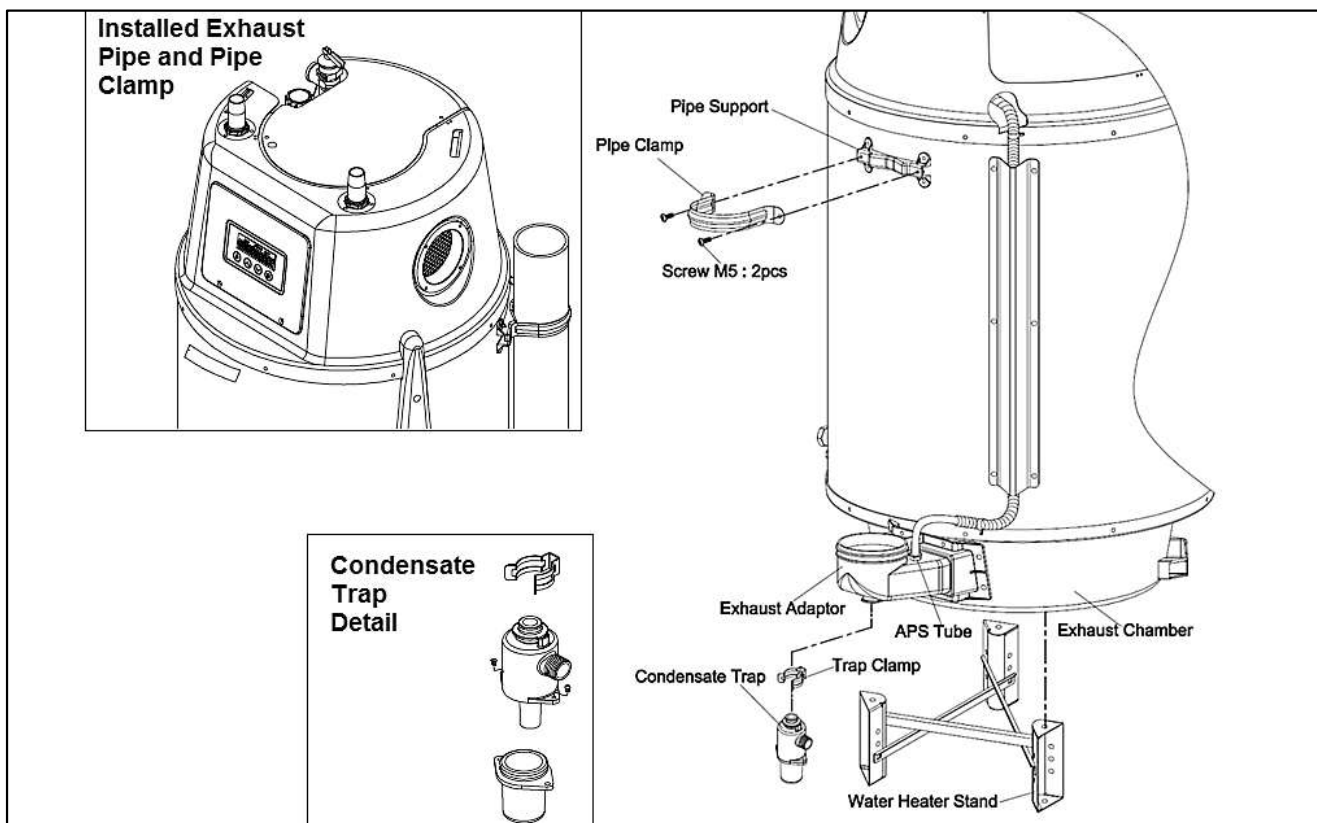

Figure 6 – Installing the Water Heater Exhaust Pipe Clamp, Condensate Trap, and Setting the Water Heater on the Stand
4. It is highly recommended that two people lift and gently lower the water heater onto the water heater stand. See Figure 6.